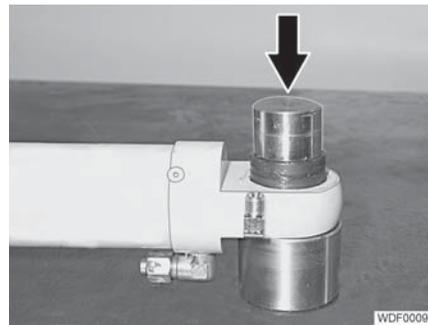

Fig. 112 Driving tool
- Position the pivot bearing from above and use a suitable driving tool (Fig. 112) to drive it in.